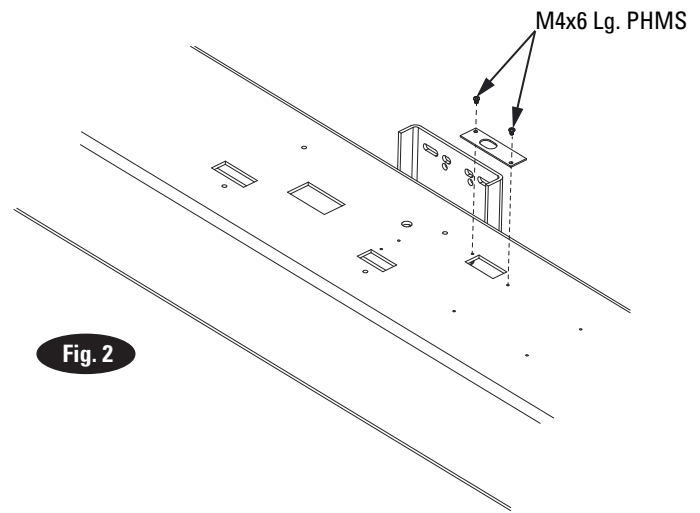

Fig. 2
2. Power Unit Tee Cover Plate: While power unit column is laying on the ground, install the cover plate using (2) M4x6 Lg. PHMS Fig. 2.